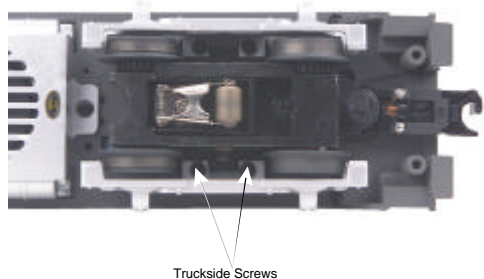

Figure 5 Truckside Screws
B. Remove the trucks from the chassis and the truck sides from the trucks in order to slip the new tire over the grooved drive wheel. See Fig. 5 for which screws you must remove to do this.